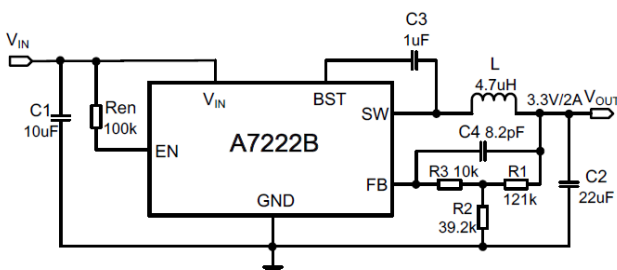
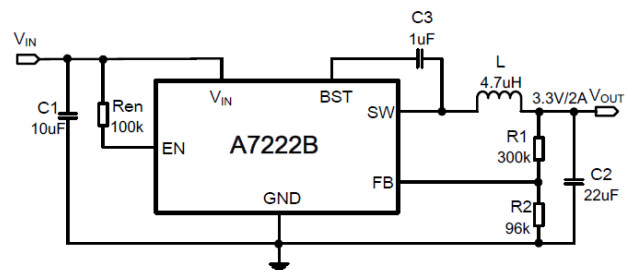

Figure 1.
Figure 2.
2) The resistance R3 in Figure 1 makes the loop more stable. If it isn't used, the resistance R1, R2 should be adjusted(See Figure2.). The value of R1 is recommended to be about 300kΩ.